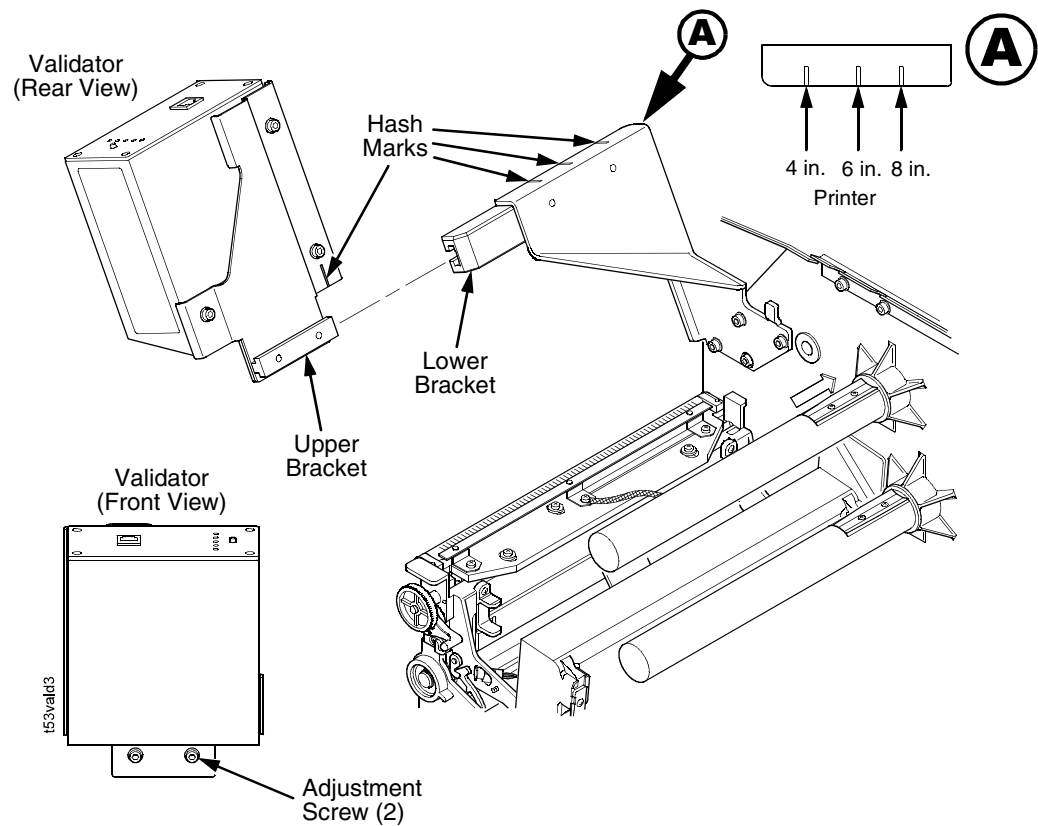

Figure 10. Installing the Validator/Upper Bracket Unit onto the Lower Bracket
4. Slide the validator/upper bracket unit onto the lower bracket and align the hash marks accordingly. Refer to Figure 10, Detail A for location of the validator hash mark for each printer model size.